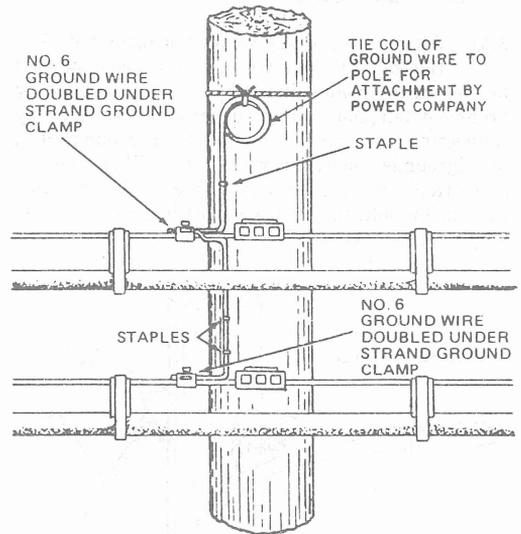

Fig. 5—Coiled Ground Wire Tied for Later Connection
1.12 Where the connection to the power system neutral must be made above the telephone space, estimate the length of wire that will be required, coil the wire, and attach it temporarily for later connection by a power company employee. See Fig. 5.